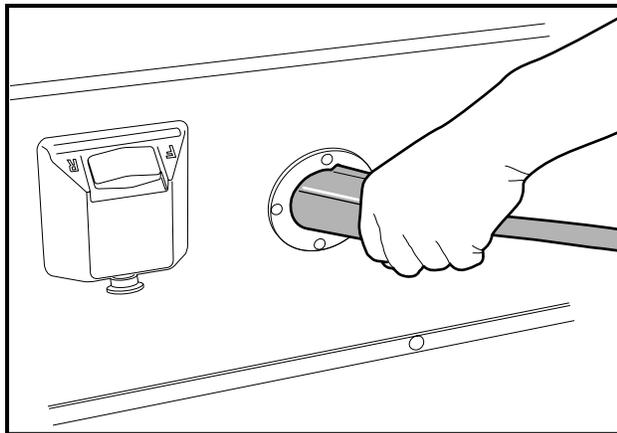

Figure 21 Correct Insertion of Charger DC Plug
- Do not rock or bend the plug. To connect the charger plug to the vehicle receptacle, grasp the plug handle and push the plug straight into the receptacle (Figure 21, Page 36).
Insert the charger DC plug into the vehicle receptacle. The charger will turn on two to ten seconds later (**Figure 21**).